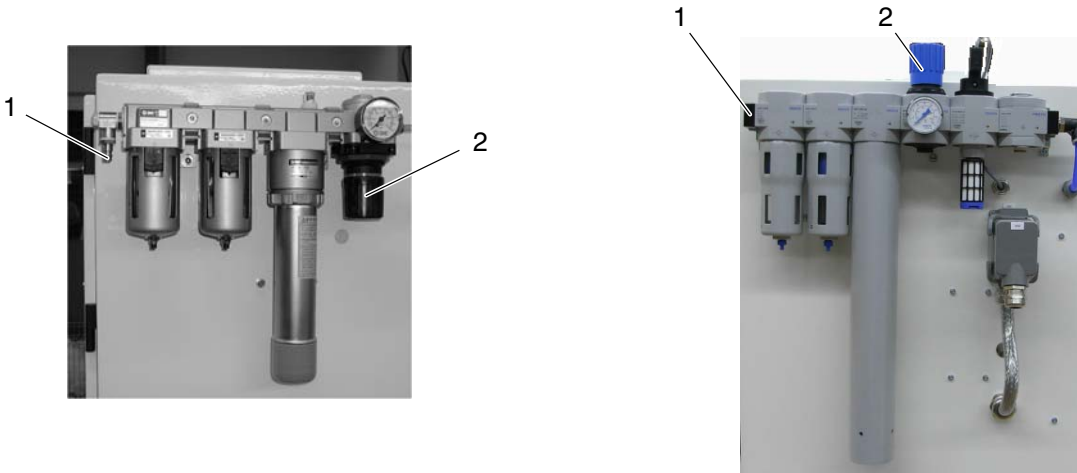

Fig. 3-7 Membrane compressed air dryer models
1. Connect compressed air supply (1, Fig. 3-7).
2. Set the air pressure to 6 bar (87 psi) (2, Fig. 3-7).